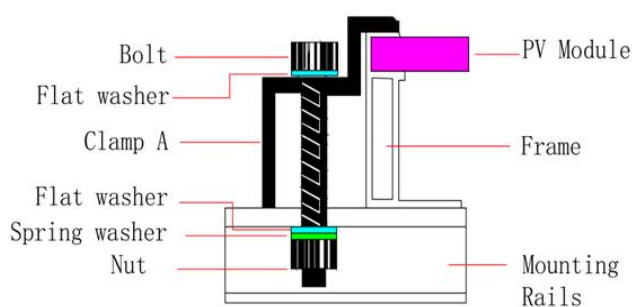

figure 4
- Clamp material should be anodized aluminum alloy or stainless steel. The mounting details are shown in the following **figure4** and **figure5**.